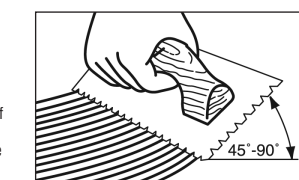

Figure 12
- Hold trowel at a minimum 45° angle (Figure 12) firmly against the subfloor to obtain a 50-60 ft.² (4-5.5 m.²) per gallon spread rate (20-30 ft.² per gallon for Bruce Summit Select or Bruce ProConnect Plus spread with listed trowels) The trowel will leave ridges of adhesive and very little adhesive between the ridges. This method will allow you to still see the chalk lines between the ridges and provide the recommended spread rate.